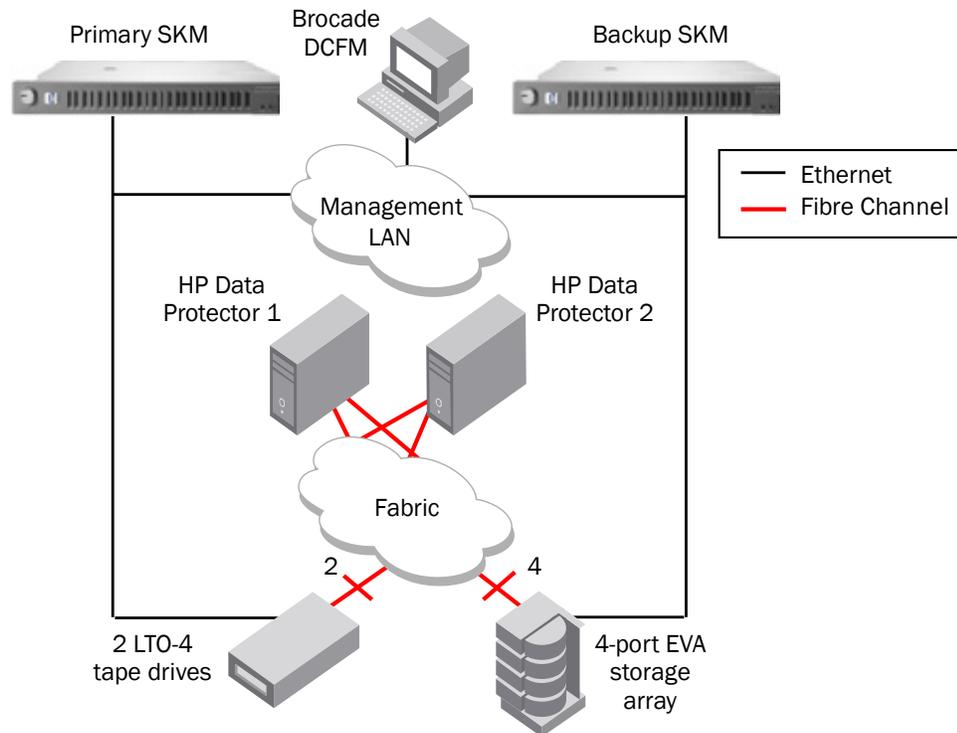

Figure 4. Initial encryption deployment
Figure 4 shows an initial deployment with a pair of HP Ultrium 1840 LTO-4 tape drives that offer encryption of data-at-rest. The LTO-4 drives are housed in an HP EML 245e tape library to automate backup operations and allow integration with the SKM cluster. This first deployment scenario is a modest step into the world of encryption, which lets the information technology (IT) staff and security officer become familiar with encrypting data for offsite archiving with HP Data Protector. The security officer established policies for DEK sharing between SKM appliances and was confident that they could apply the techniques to other applications and scale the infrastructure to encrypt several more applications as well as encrypting disk. The IT staff decided to use their existing SKM infrastructure and encrypt EVA storage arrays as well as more LTO-4 tape drives.